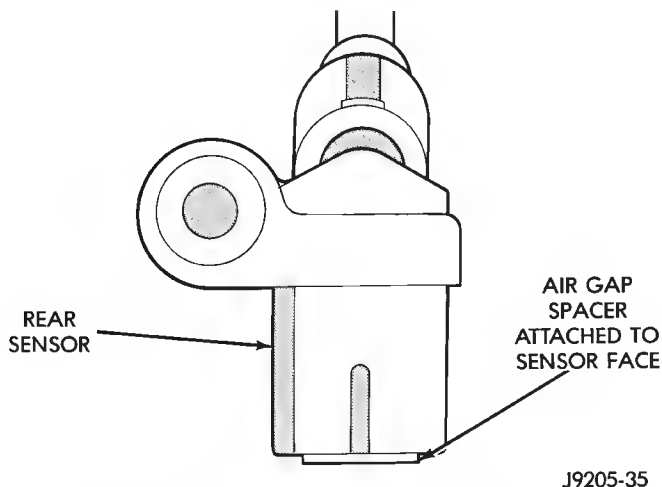

Fig. 11 Location Of Spacer On New Rear Sensor
(6) If **new** sensor was installed, push cardboard spacer on sensor face against tone ring (Fig. 11). Then tighten sensor bolt to 8 N·m (6 ft. lbs.) torque. Correct air gap will be established as tone ring rotates and peels spacer off sensor face.